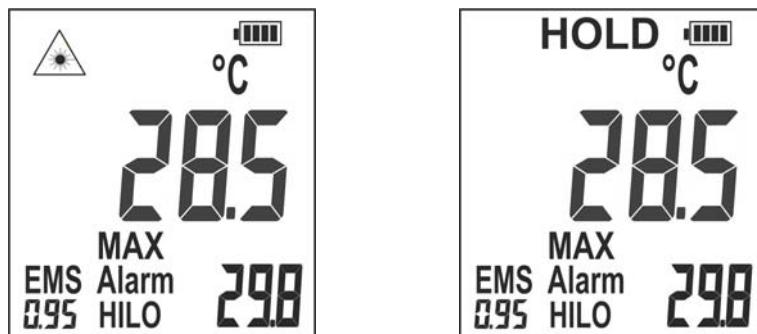

Fig. 18: Display of measured values
7. Release the Trigger key **T** to stop measuring and freeze the last read value. The symbol “” disappears and the message “HOLD” is shown on the display (see Fig. 18).